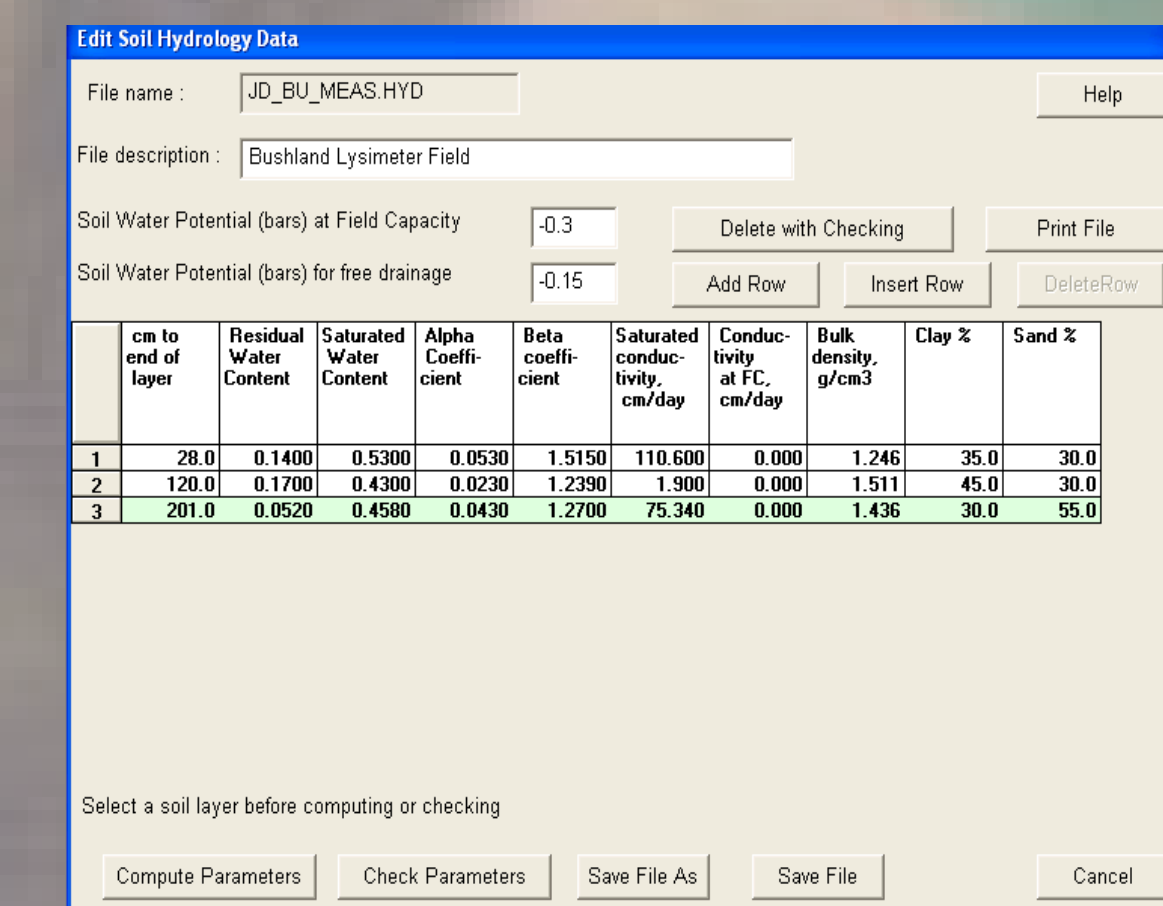

Figure 4. Soil hydrology data.
- General soil properties related to the soil hydraulic properties (Figure 4)